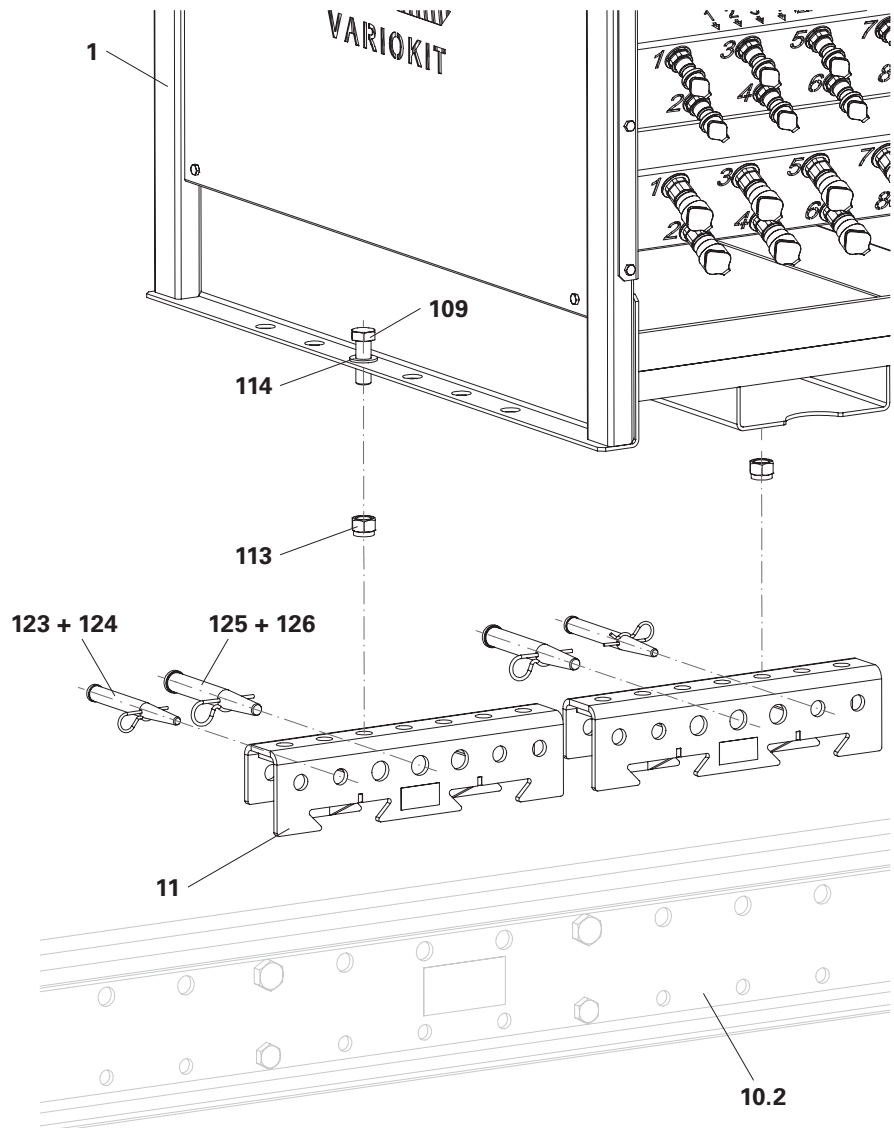

Fig. B3.04
3. Attach the hydraulic unit (1) to the crane lifting gear and fly in.
5. Fix the hydraulic unit on both multiadaptors (11) with bolts M20x60 (109), self-locking nuts M20 (113) and washers M20 (114).
6. Remove the crane lifting gear. (Fig. B3.04)